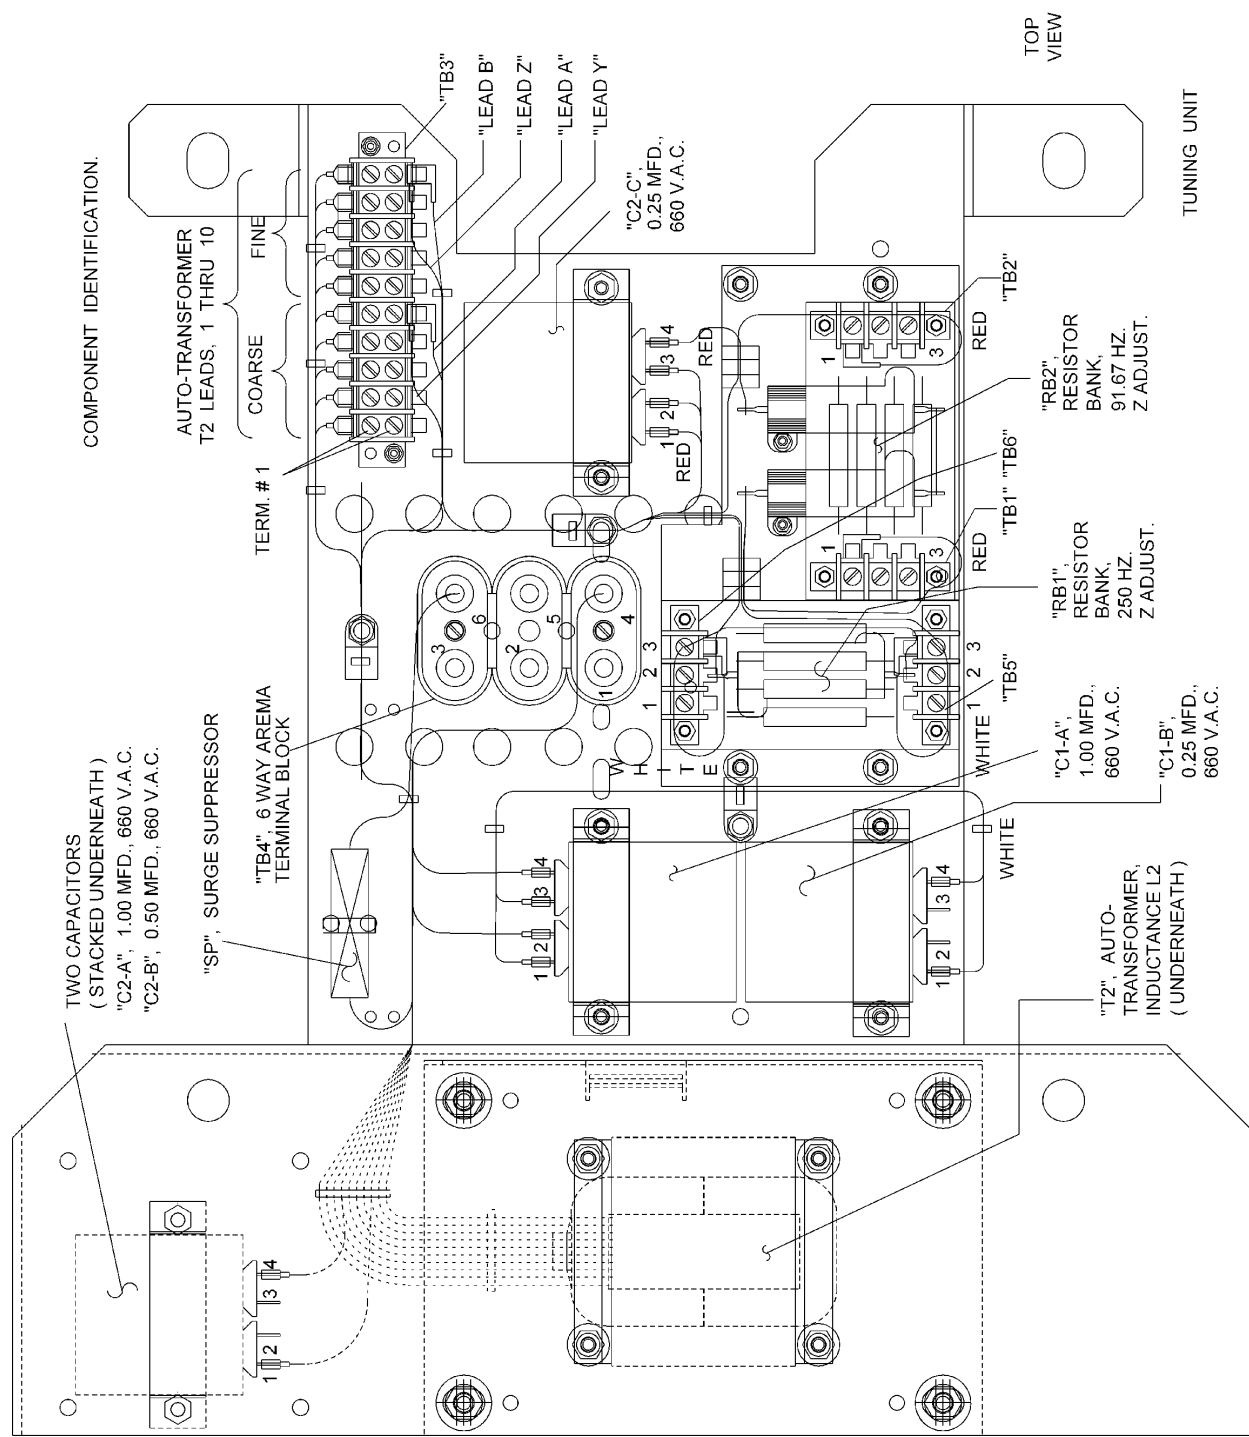

FIGURE 3-1 - COMPONENT IDENTIFICATION
1. Refer to Figure 3-1. Locate terminal block "TB4" (6-way, AREMA-style terminal block).
7. Place one copper washer over terminal posts 1, 2, and 3 on the AREMA-style terminal block. This terminal block is denoted as "TB4" in Figure 3-1.
8. Place the bond's secondary (tuning) coil leads 1 (red), 2 (green) and 3 (black) over terminal posts 1, 2, and 3, respectively, on AREMA-style terminal block denoted as "TB4" in Figure 3-1.